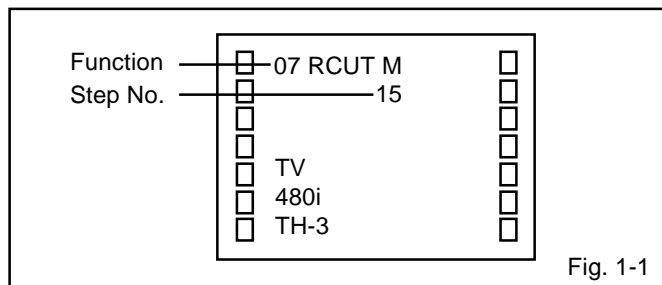

Fig. 1-1
2. Press the VOL. DOWN button on the set and the Channel button (9) on the remote control for more than 2 second to appear the adjustment mode on the screen as shown in Fig. 1-1.
1. Activate the adjustment mode display of **Fig. 1-1** and press the channel button (**53**) on the remote control to select "CON MAX".
6. Activate the adjustment mode display of **Fig. 1-1** and press the channel button (**53**) on the remote control to select "CON MAX".
10. Activate the adjustment mode display of **Fig. 1-1** and press the channel button (**53**) on the remote control to select "CON MAX".